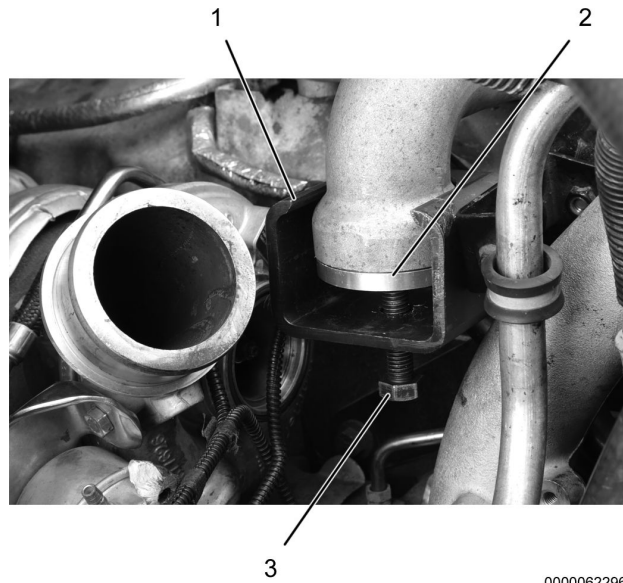

Figure 4. Interstage Cooler Outlet Lip Seal Plate Installed.
8. Tighten forcing screw (Figure 4, Item 3) until seal installer (Figure 4, Item 2) is flush with the bottom of the outlet.